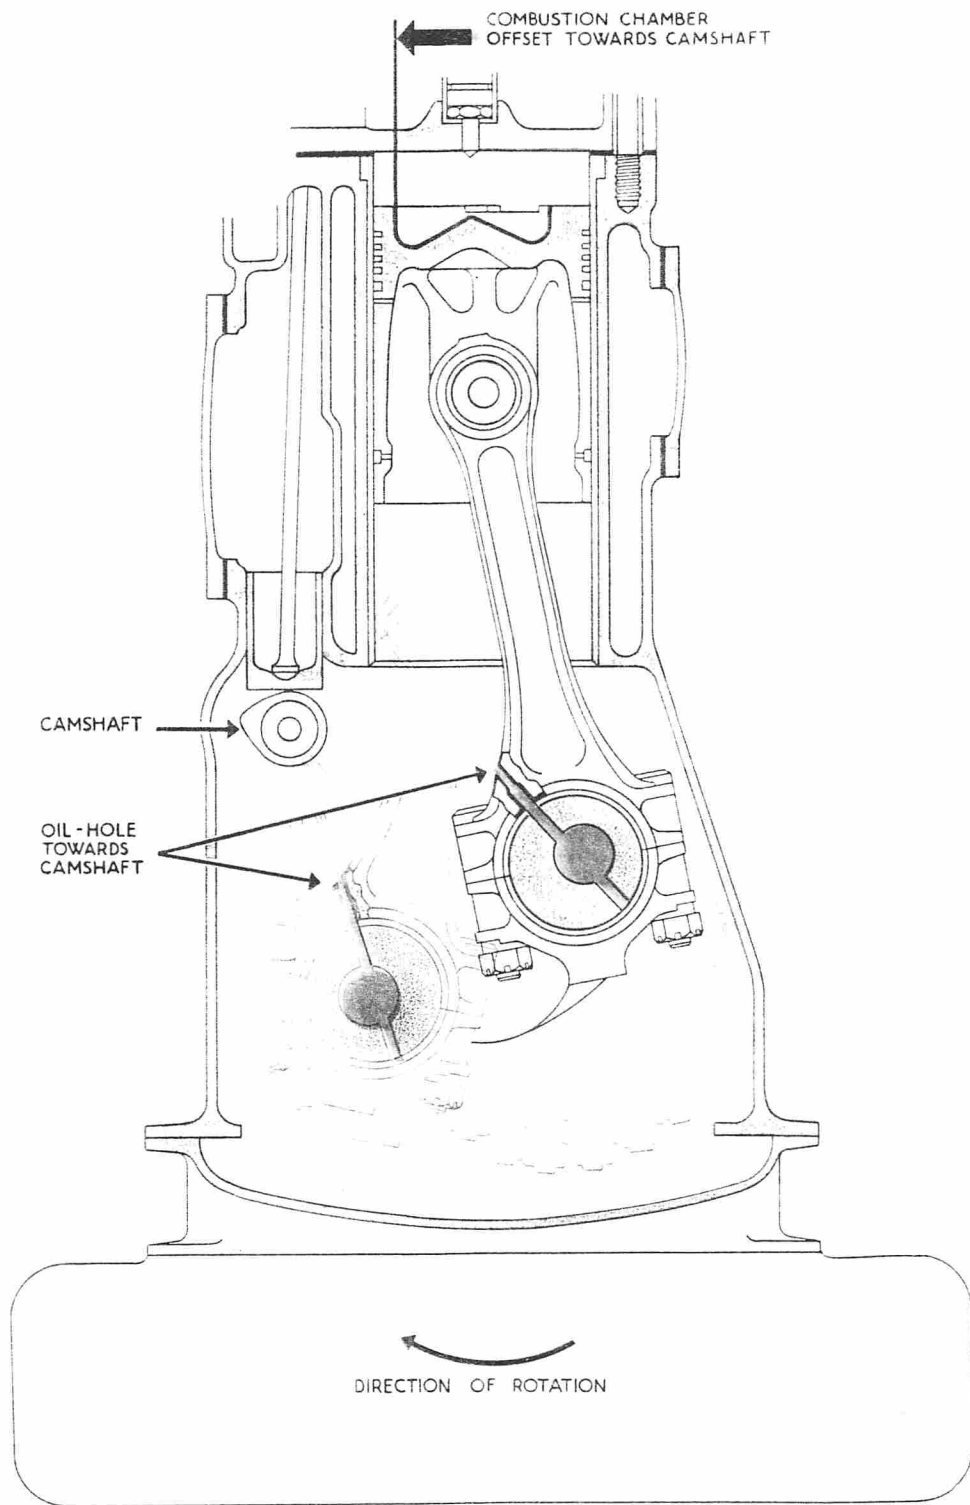

FIG. 84. CYLINDER-WALL LUBRICATION
2. Fit the connecting rod assemblies with the offset combustion chamber in the piston heads and the oil spray hole in the big ends on the same side as the camshaft (see Fig. 84).
Oil is fed to the crankshaft main bearings, big-end bearings, idler-gear and camshaft bearings through oilways drilled in the crankcase. The cylinder walls and gudgeon-pin bushes are lubricated by splash and intermittent spray from oilways drilled in the crankpins and connecting-rod big-ends (Fig. 84).